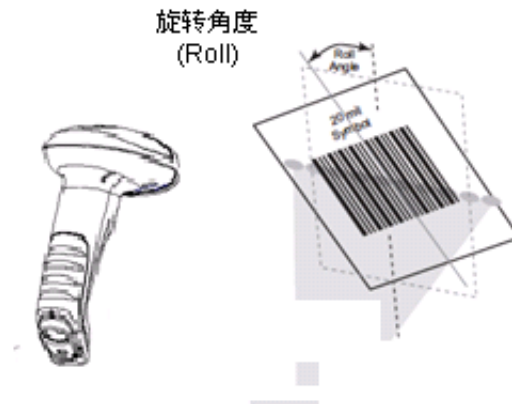

Fig. 1-14
- ◇ Roll:  $360^\circ$ ,  $0^\circ$  Pitch and  $0^\circ$  Skew (Fig. 1-14)